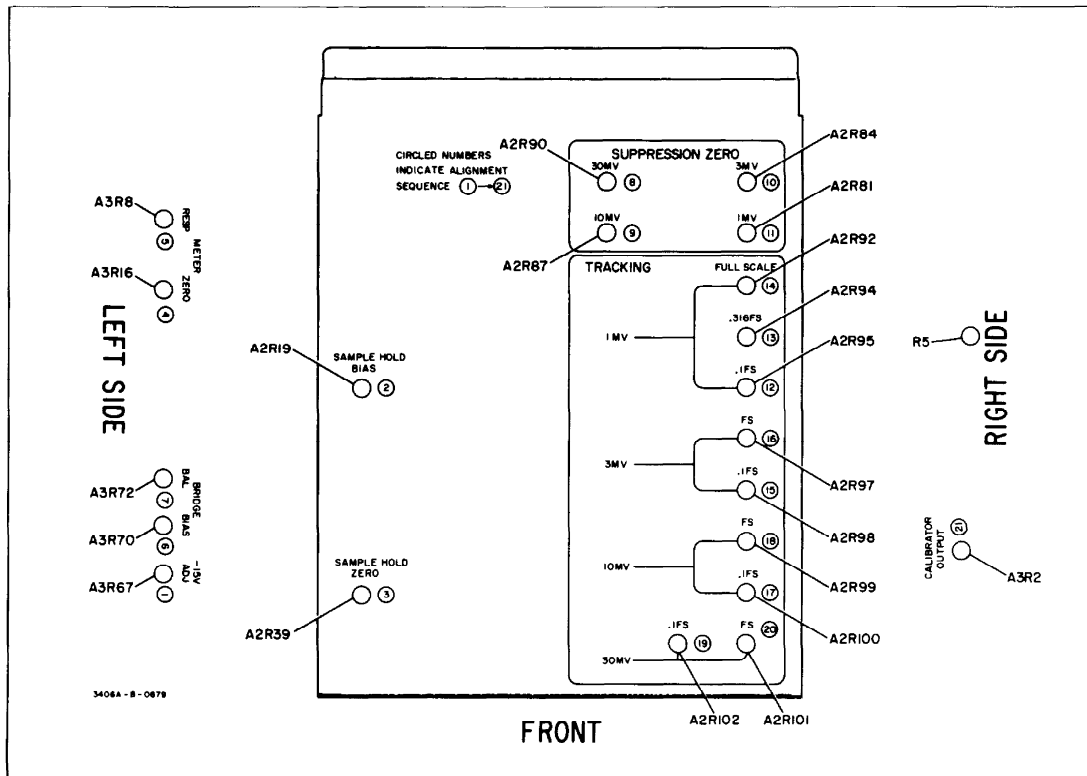

Figure 5-6. Adjust Point Location
All adjustments are available through the top shield or side gussets as illustrated in Figure 5-6. The circled numbers indicate the alignment sequence ①-②. Figure 5-6 also gives the reference designator for each adjustment.